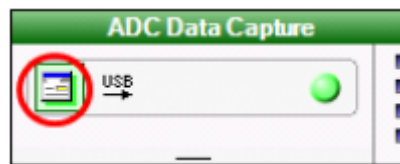

Figure 7. VisualAnalog Window Toolbar, Collapsed Display
4. To configure VisualAnalog to operate with the AD9656, push the Settings button on the ADCDataCapture block, as shown in Figure 7.